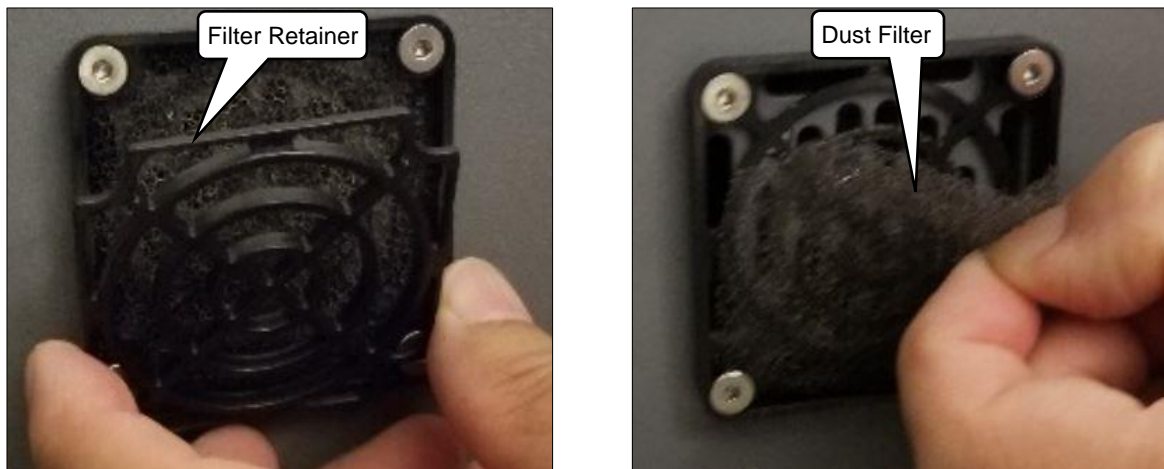

Figure 4: Simple Dust Filter Replacement
3. Pry off the filter retainer piece from the assembly (Figure 4).
4. Flip the assembly over and pry off the filter retainer piece (see Figure 4).
6. Reinstall the filter assembly, this time making sure the filter retainer piece (see Figure 4) is now facing out.